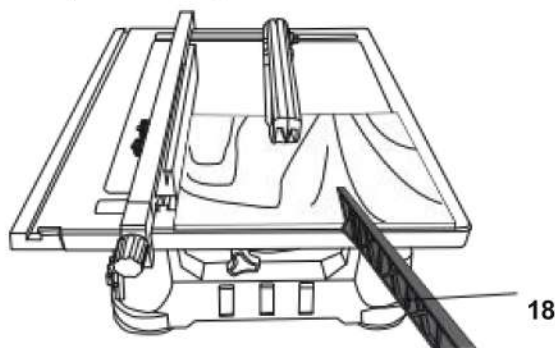

Fig. 14
The pusher (18) is a device used to safely move the workpiece through the saw blade. It can be made of wood waste, have a different size and shape to suit a specific project. The pusher must be narrower than the workpiece, have a 90 ° notch at one end and a suitable, catchy shape at the other end. Use the pusher whenever the parallel fence is 12 cm or less from the saw blade. Instead of the user's hand, use a push stick to guide the material between the parallel fence and the saw blade. When using the pusher, remember that the rear edge of the fabric should be rectangular (fig. 14). Otherwise, the pusher may slip and / or move the workpiece away from the guide .